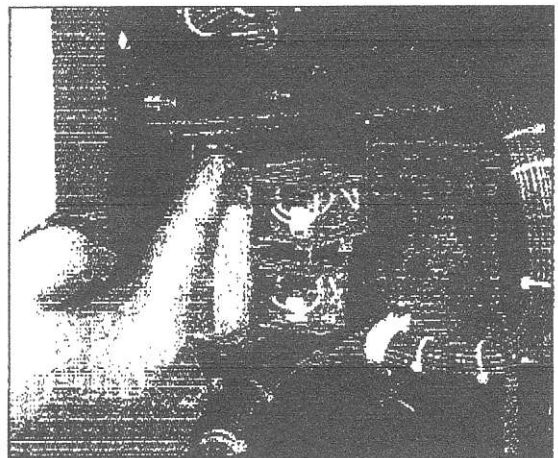

Fig. 67 Remove the Thumbscrew
- 4) Remove the thumbscrew (Fig. 67) and rotate the retaining spring downward.